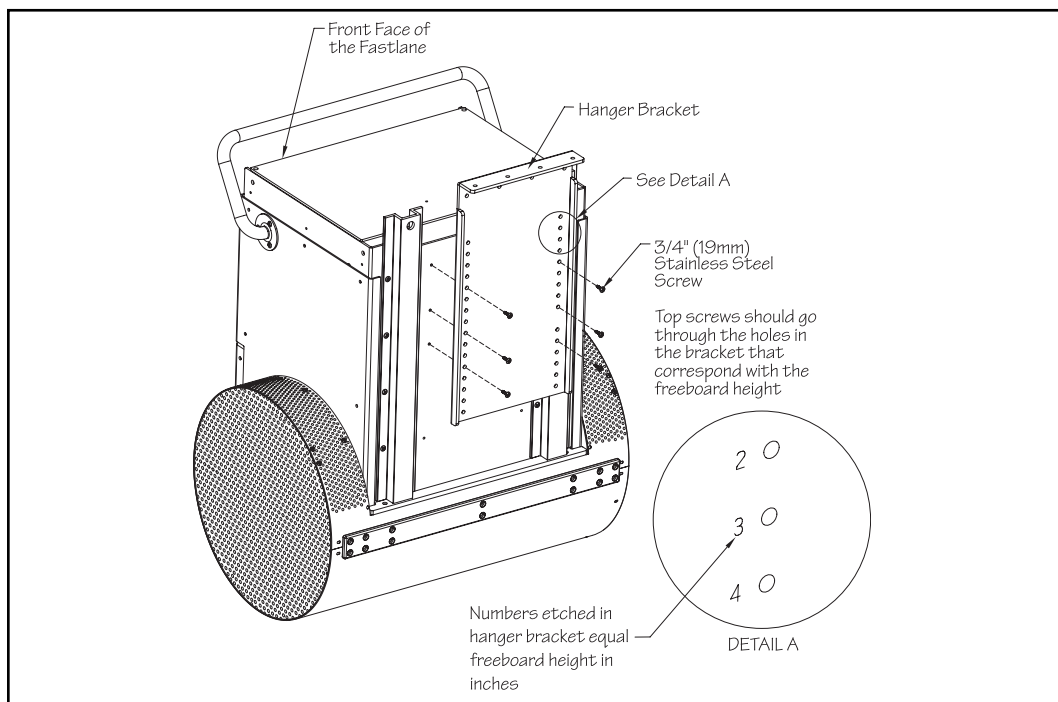

Fig. 9.2
9.2 Carefully lay the assembled Fastlane Pro down on its front face. There are six pre-drilled holes in the center of the top housing (between the protective hat channels). Align the top set of holes in the housing with the top set of holes in the hanger bracket (if the freeboard is 6" (15,2cm) then align the #6 holes with the top holes in the housing). When the hanger bracket is positioned on the housing, use the provided 3/4" (19mm) screws to attach (Fig 9.2).